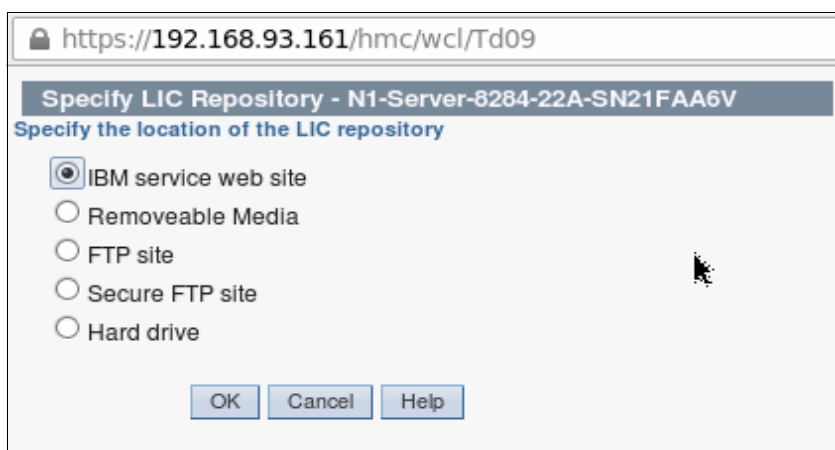

Figure 1-19 Select the LIC Repository
5. Specify the LIC repository that you want to use, as Figure 1-19 shows.